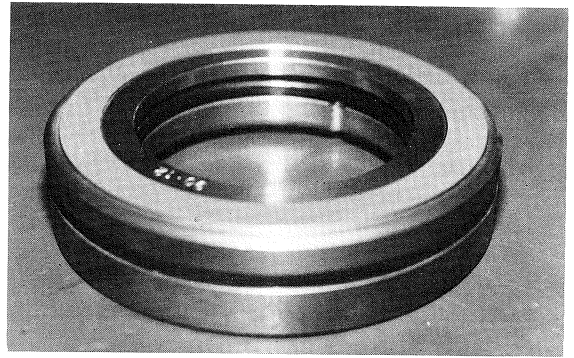

Fig. 52 Double seal collar
- b) When the locknuts have been removed, pull out the shaft seal collar (33-1) through the groove on the outer circumference as shown in Fig. 52. Never risk gouging it by putting a screwdriver between the seal collar and the thrust bearing (29) even when it will not part easily. The components of the double seal collar are shown in Fig. 52.